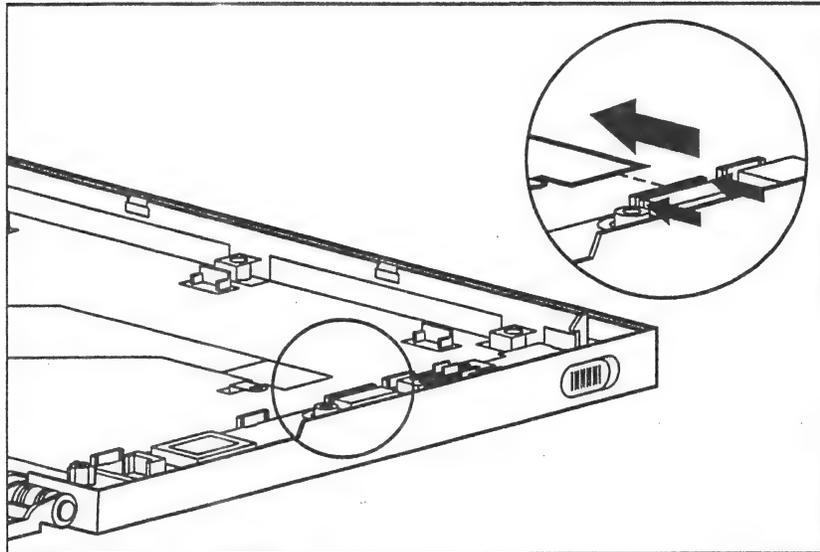

Figure 2-41. Disconnecting the Display Inverter Board ZIF Connector
3. Pull out on the display inverter board ZIF connector to disconnect the cable (Figure 2-41).